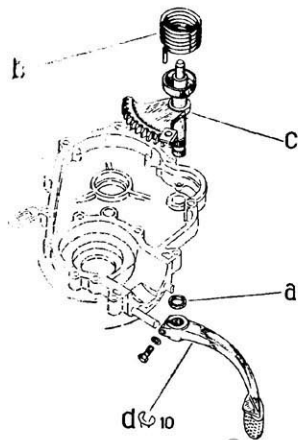

Fig. 111
6. Check assembly position of kickstarter (see N.B. at Fig. 111).